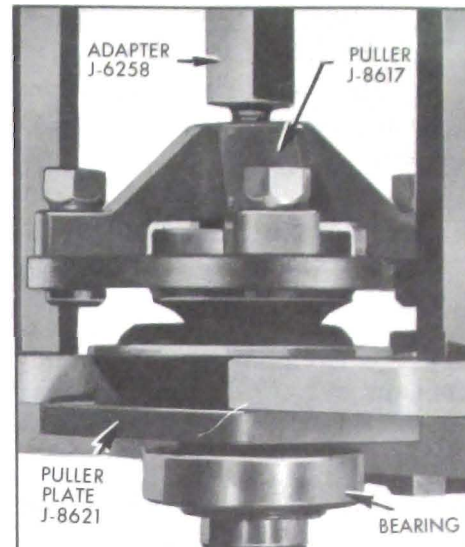

Figure 6-7—Removing Axle Shaft Bearing
2. Press axle shaft bearing off using Puller Plate J-8621 with Remover J-6255. An arbor press may be used or a set-up may be made using Ram and Yoke Assembly J-6180 with Adapter J-6258 and Puller J-8617. See Figure 6-7.